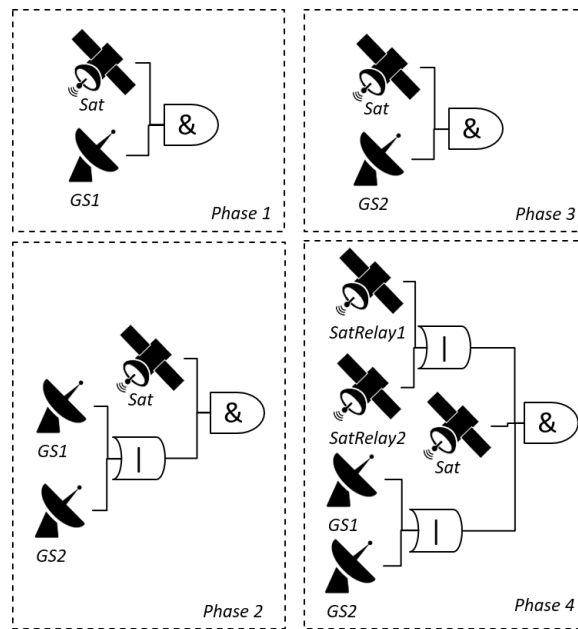
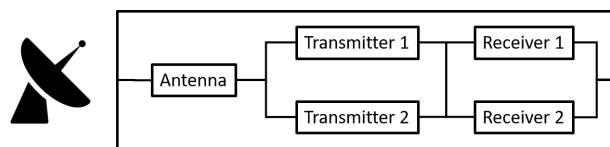
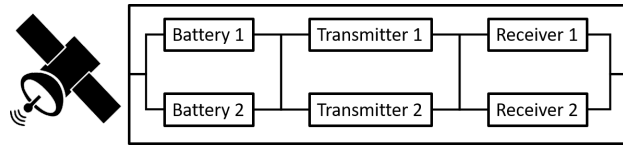

Figure 2: Phases of the satellite communication system.
Figure 3: Ground station Reliability Block Diagram.
Figure 4: Satellite Reliability Block Diagram.
The communication channel can be considered as a subsystem which may contain antennas, batteries, transmitters, and receivers as shown, for example, in the reliability block diagram Figure 3.
The satellite **Sat** orbits the Earth for 300 laps, each orbital lap contains four phases. The subsystems used in each phase are shown Figure 2. The durations of the different phases are given in Table 1. The satellite communication system is thus a Phased-Mission System (PMS) made of 28 independent components and operating through 1200 successive phases.
For example, in the reliability block diagram given Figure 3 the system fails when both transmitters fail or both receivers fail or the antenna fails.
Figure 3 describes the reliability block diagram of the ground stations. In this exercise we assume that in the diagram all the components may fail in operation with failure rates given in Table 1.
1. Open the file "Components/GroundStation-RBD.alt" and complete the class **GroundStationSubSystem** to represent the reliability block diagram given Figure 3. Use the classes defined in the previous exercise.
Figure 4 describes the reliability block diagram of the satellites. In this diagram all the components may fail in operation and cannot be repaired. Failure rates are given in Table 1.
1. Open the file "Components/Satellite-RBD.alt" and complete the class **SatelliteSubSystem** to represent the reliability block diagram given Figure 4. Use the classes defined in the previous exercise.
Figure 2 shows which subsystems of the satellite communication system are used in different phases. The model of each satellite is represented by the reliability block diagram given Figure 4 and defined in the class **SatelliteSubSystem**. The model of each ground station is represented by the reliability block diagram given Figure 3 and defined in the class **GroundStationSubSystem**.
- (a) Define the elements that compose the system (see Figure 2).
In the satellite subsystem given Figure 4 batteries are subjected to a common cause failure with a failure rate $\lambda_{CCF} = 10^{-6}h^{-1}$.